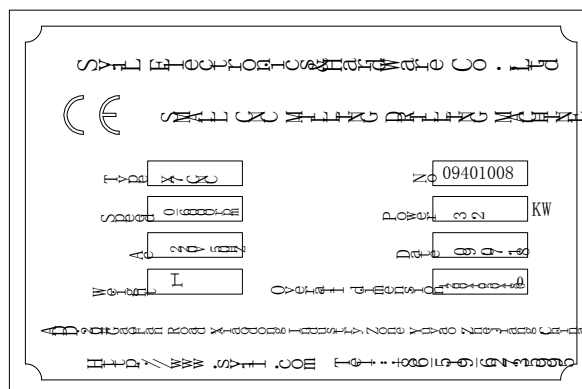

Figure 1-1
- Nameplate is shown in Figure 1-1